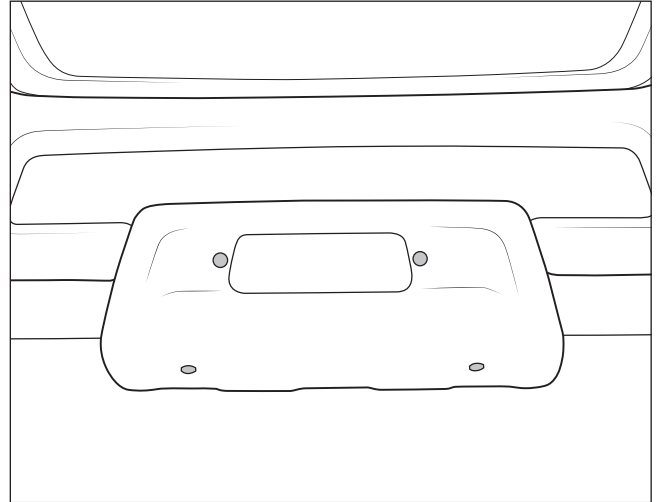

Figure 2
- B. Remove the 2 M10 bolts in middle of Front Bumper Skid (fig. 2).
- C. Remove the 4 torx bolts from bottom and sides of Front Bumper Skid (fig. 2).
15. Reinstall Front Bumper Skid (fig. 2).